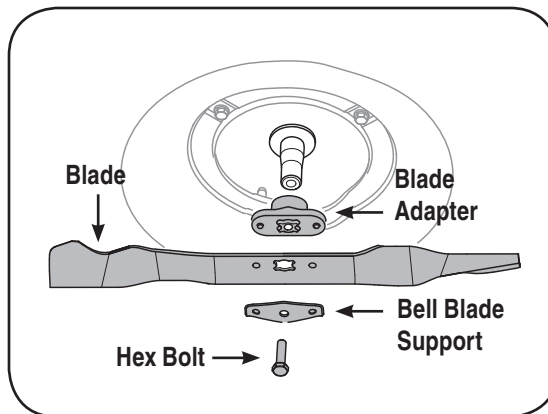

Figure 5-2: Remove blade and hardware.
2. Remove the bolt and the bell blade support which hold the blade and the blade adapter to the engine crankshaft, Figure 5-2.